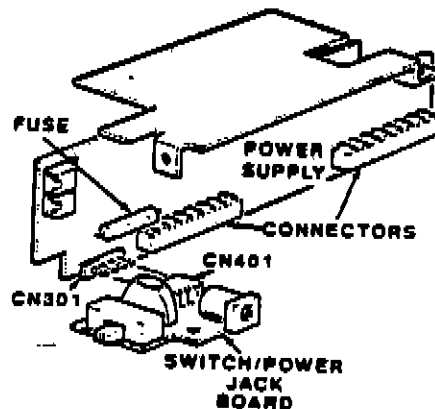

Figure 3-16. Accessing the Fuse
5. Remove the switch/power jack board, as shown in Figure 3-16. The fuse on the power supply is now accessible.